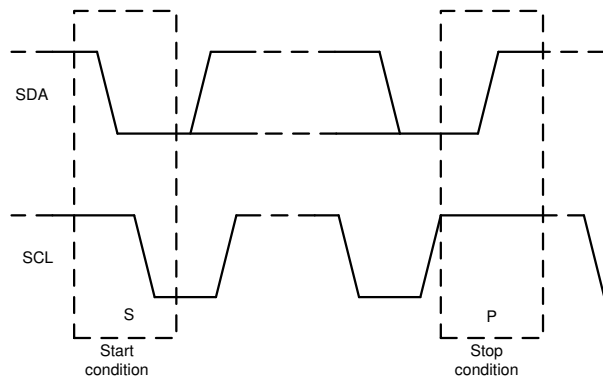

图 8-4. Start and Stop Conditions
1. The master initiates data transfer by generating a start condition. The start condition is when a high-to-low transition occurs on the SDA line while SCL is high, as shown in 图 8-4. All I²C-compatible devices recognize a start condition.
4. To signal the end of the data transfer, the master generates a stop condition by pulling the SDA line from low-to-high while the SCL line is high, as shown in 图 8-4. This action releases the bus and stops the communication link with the addressed slave. All I²C-compatible devices recognize the stop condition. Upon receipt of a stop condition, the bus is released, and all slave devices then wait for a start condition followed by a matching address.